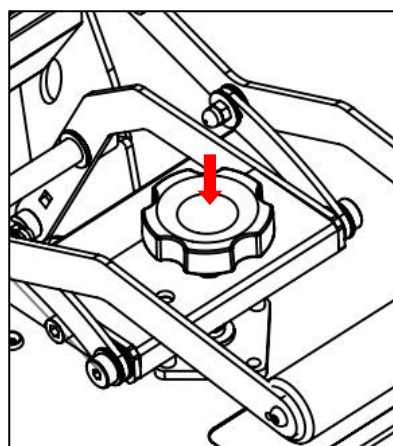

Figure4.4.1
4.4.1. The Pressure Adjustment Knob is located in the center of the heat platen (See figure 4.4.1)